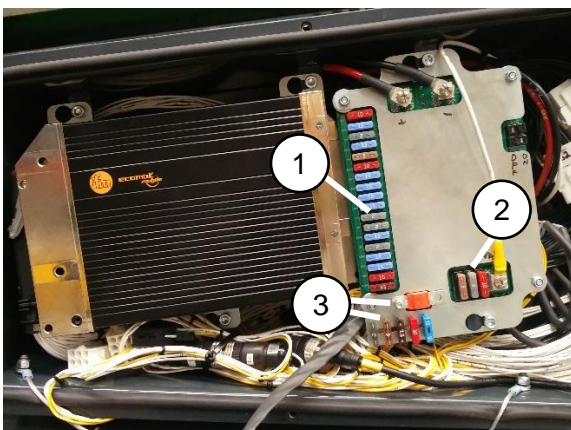

Figure 15 Fuses
The slewing ring of the access platform must be greased monthly, according to the maintenance schedule. It is important to notice that the slewing ring has five (5) separate greasing points (Figure 15) which all must be greased individually. The grease nipples on the outside of the slewing ring are connected to the gear and its bearings. Two (2) grease nipples on the inside of the slewing ring are connected to the ring's ball bearings. Easiest way to apply grease on these two grease nipples is through the service hatch on the bottom of the chassis.